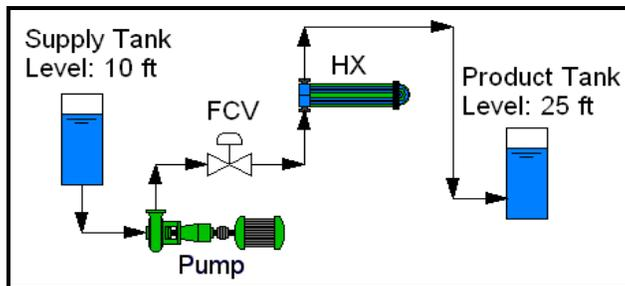

Figure 3: Typical piping system.
Consider the typical piping system in Figure 3 consisting of a Supply Tank, Pump, Flow Control Valve (FCV), Heat Exchanger (HX), and a Product Tank. The pump curve has been specified for the pump and C_v data has been entered for the FCV with an equal percentage characteristic and a maximum C_v of 225.